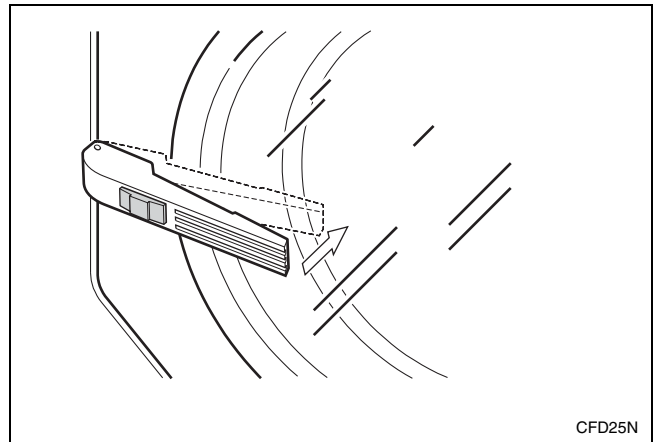

Figure 9
4. Close door by pushing door handle towards machine. Refer to *Figure 9*.